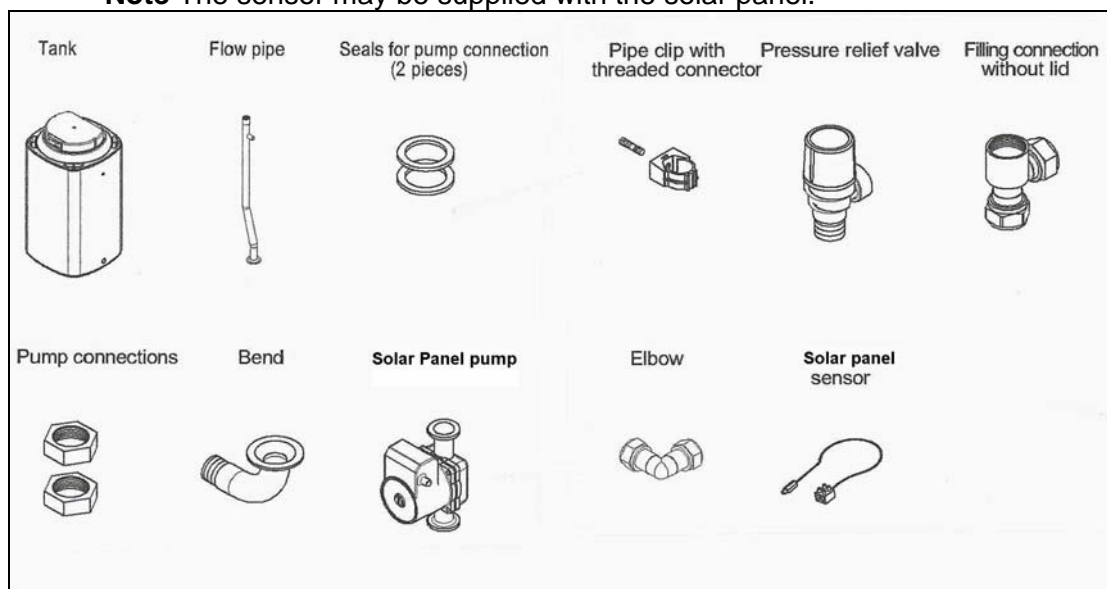
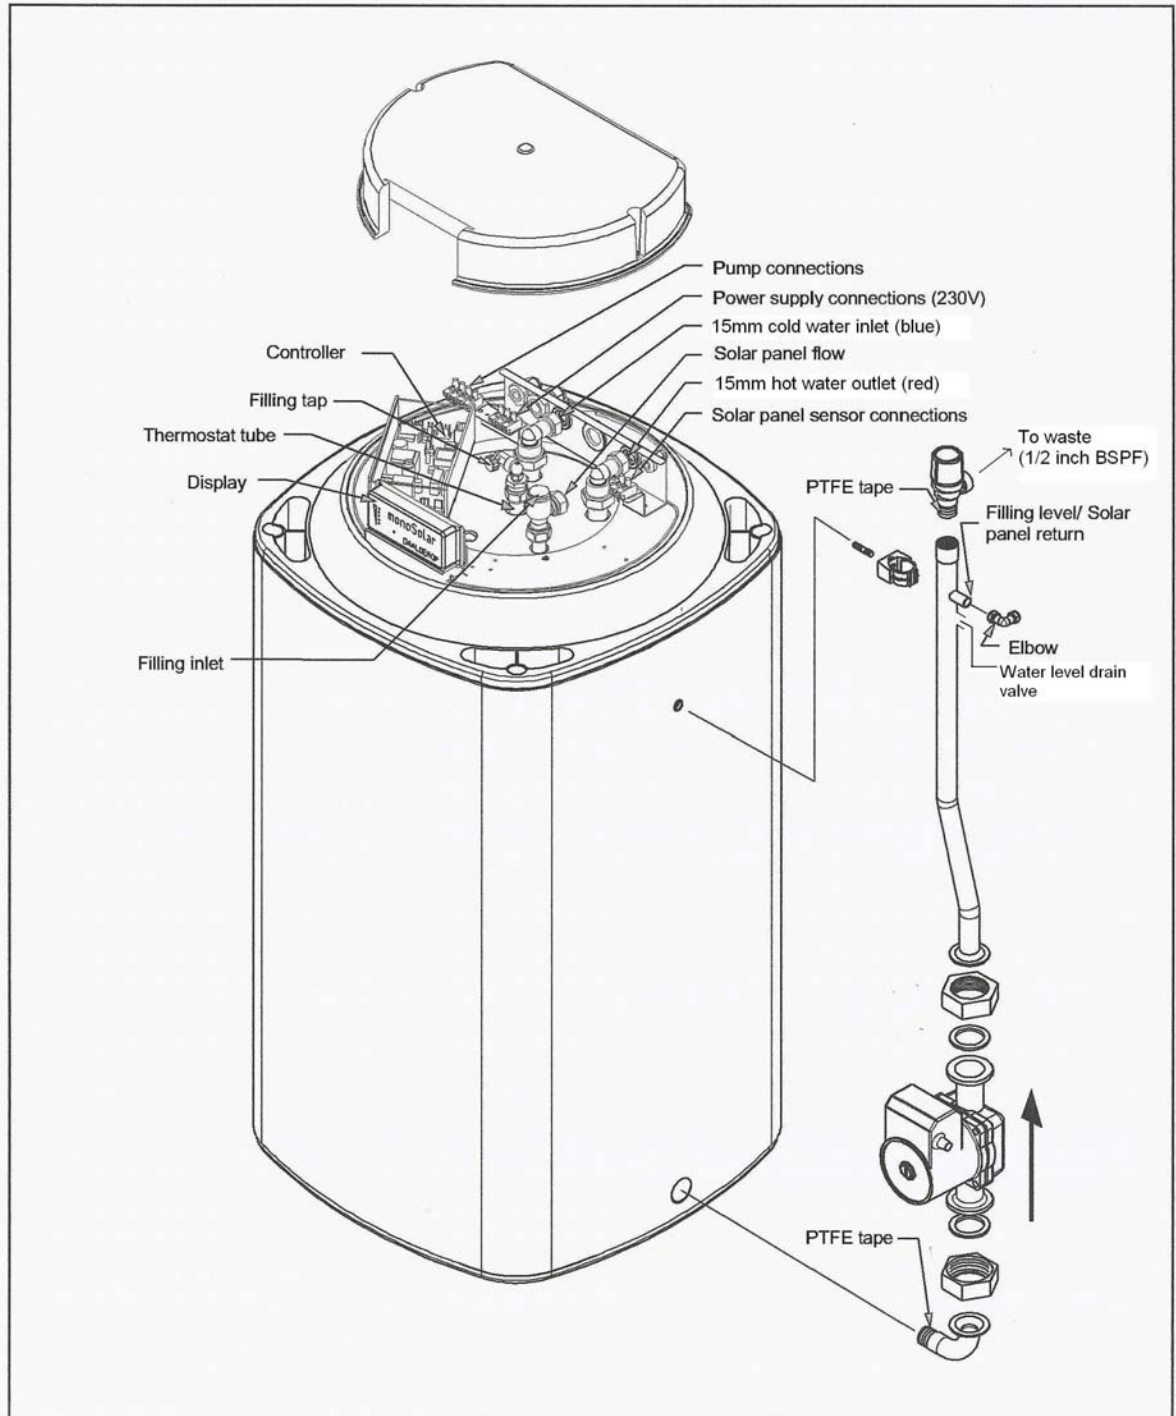

Figure 5.1
Figure 5.2
5.2.1 The parts supplied are shown in Figure 5.1 below. See also Figure 5.2.